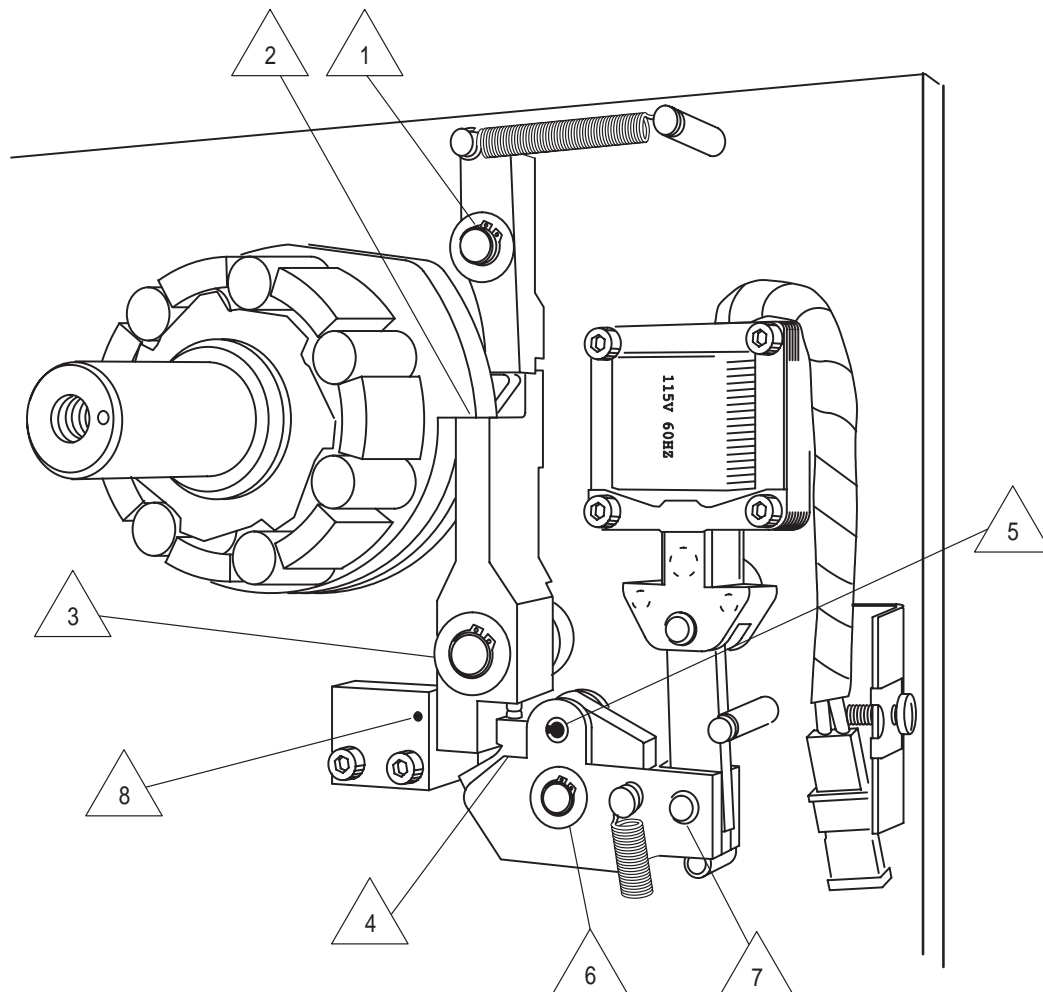

Figure 4-2. Clutch Linkage Lubrication
C. Clutch Linkage (Figure 4-2)